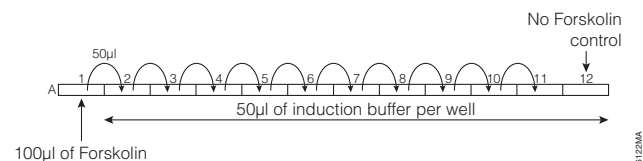

Figure 7. Dilution scheme for the agonist forskolin.
4. Perform a serial twofold dilution of forskolin by transferring 50μl from well A1 to well A2 with a pipette, pipetting to mix. Transfer 50μl to well A3; mix. Repeat for wells A4 through A11. See Figure 7. Discard the extra 50μl from well A11. Do not add forskolin to the no-forskolin control reactions in well A12.